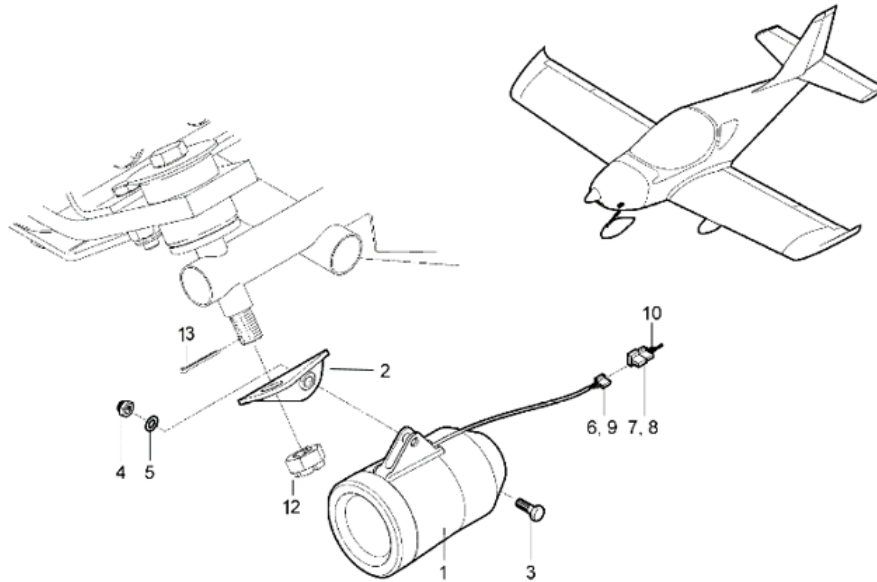
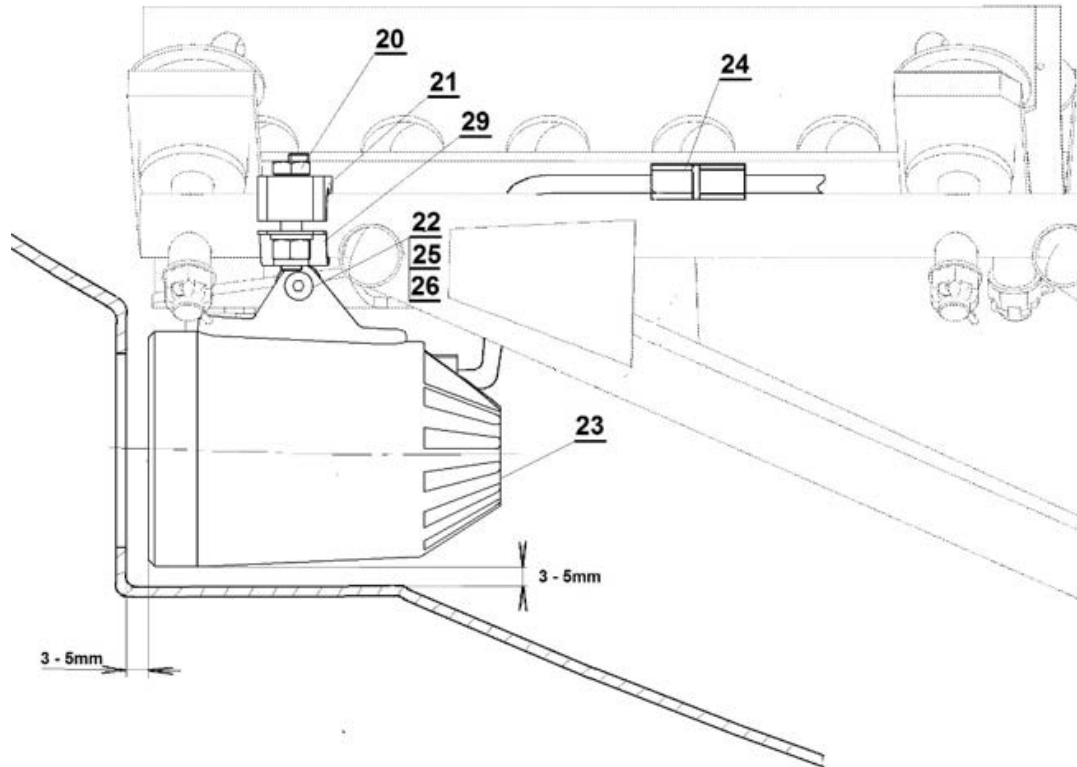
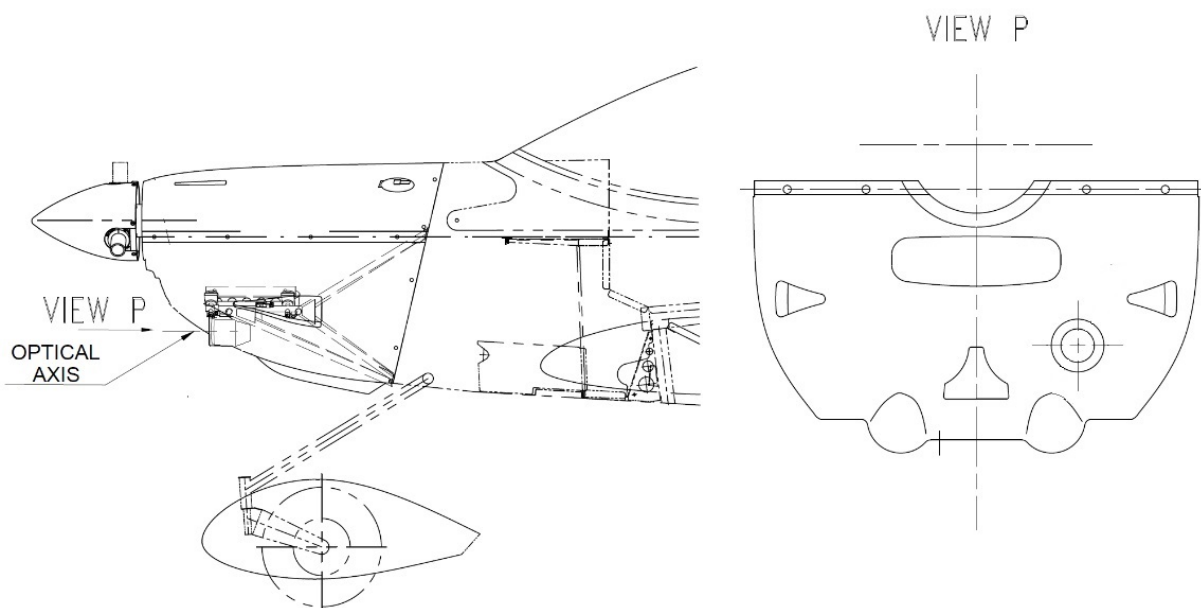

Figure 1 – Dismounting of the Original landing light Trail Tech 4213-SX
Figure 3 – The New landing light position adjustment
Figure 4 – Adjustment of the New landing light axis
NOTE: Numbering of parts used in this Section 1 belongs to the Figures 1 to 4 below.
Legend to the figures 1 to 4 below:
- 1.7 Disconnect the Original landing light from the aircraft wiring system - cable with the connector (6, 9) from the wiring (7, 8, 10), see Figure 1 above.
- 1.12 Interconnect the airplane connector (8) with the landing light connector (24), see Figure 1 and Figure 3 above.
- 1.13 Install the engine lower cowling and check the landing light position – it must be adjusted so that the optical axis of the landing light passes through the middle of the engine lower cowling opening, see Figure 3 and Figure 4. Use the parts (21, 29, 30) for adjustment.